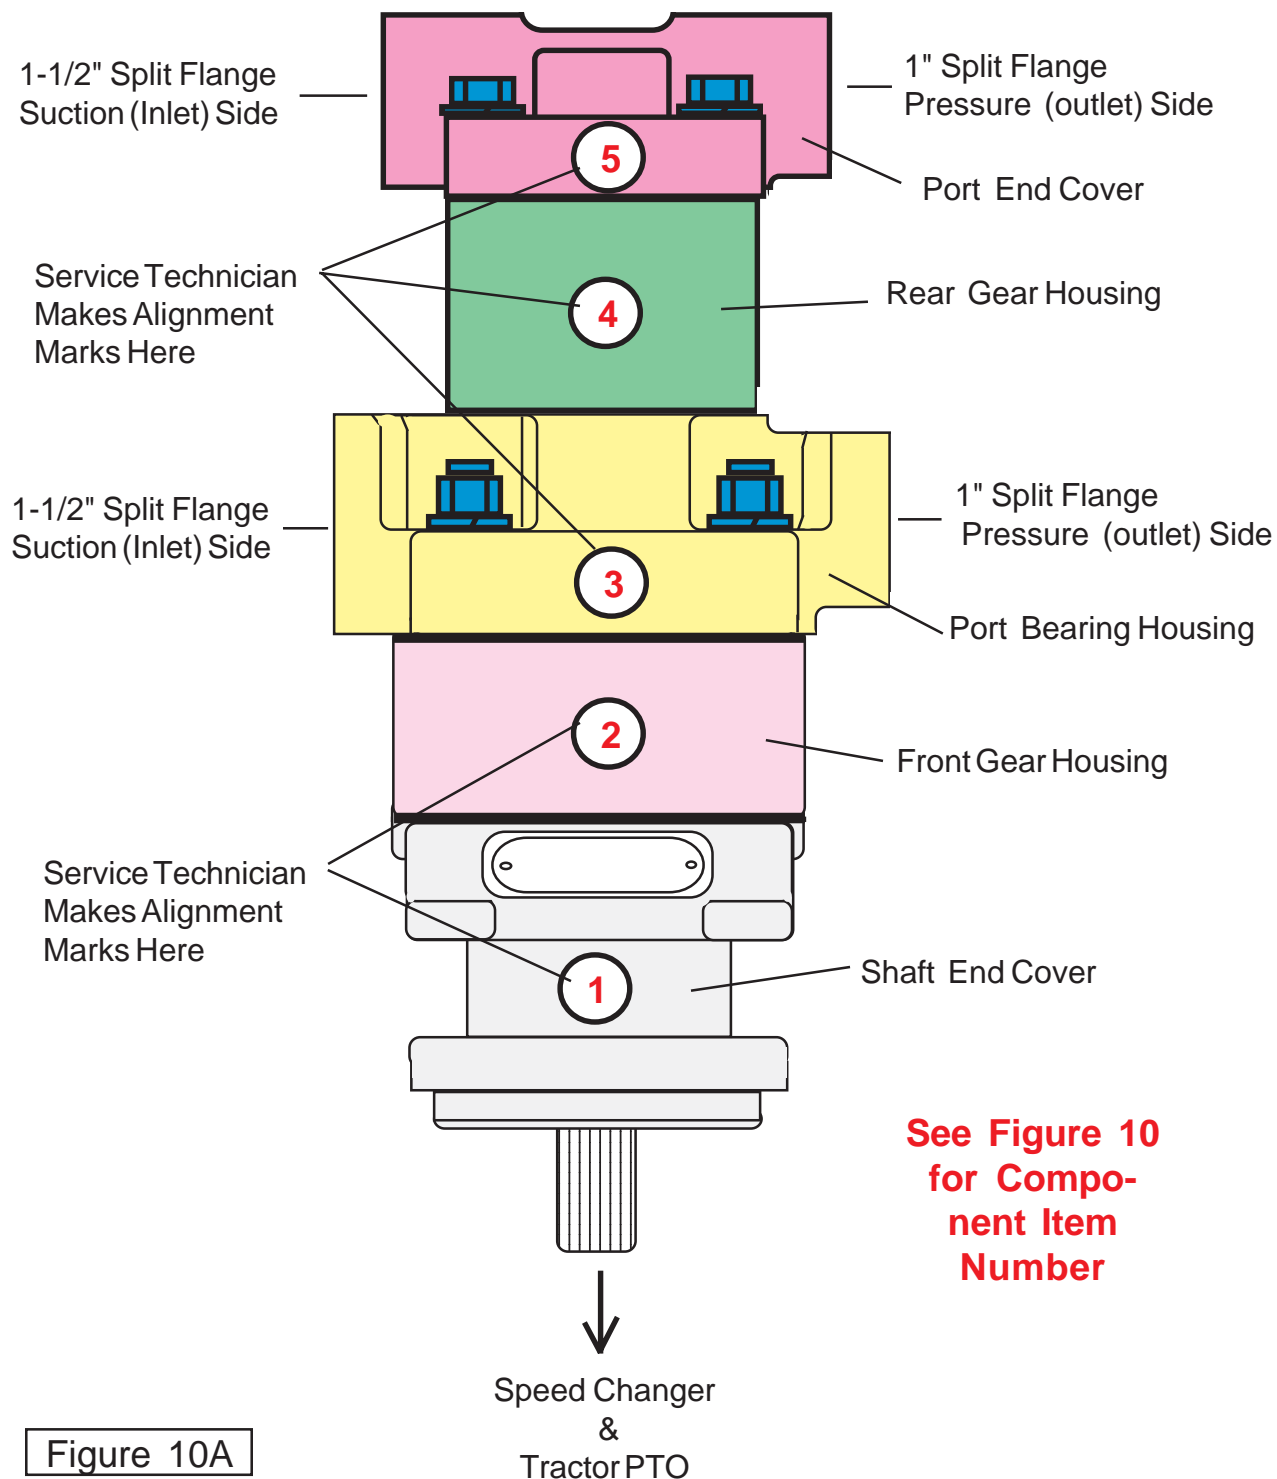
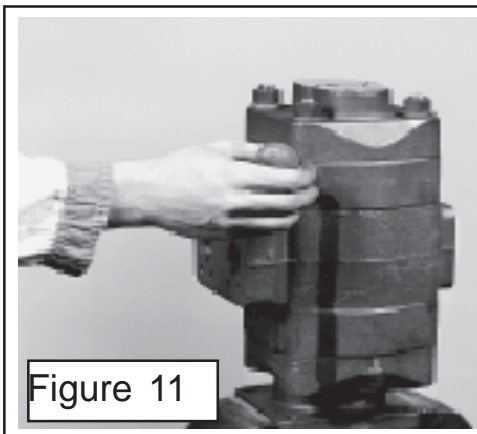

Figure 10A
Figure 11
1. Place the pump in a vise with the drive shaft pointing down. Caution **DO NOT** grip on or near any machined surfaces of pump during assembly or dis-assembly. Mark all sections of the pump (**figure 10A**), these marks must be done in a manner that will not wash off and these marks are to identify the orientation of the component of the pump later for re-assembly. It is recommended that marks be done with metal stamps that will mark components for correct assembly order for & during re-assembly. This is **very important** as if any of the sections of pump are installed in the wrong direction it could damage pump when re-assembled or when pump is engaged during operation (**figure 11**).